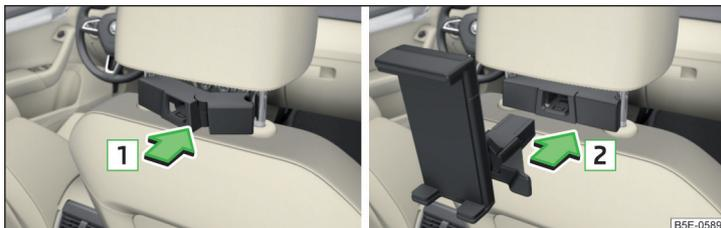

Fig. 102 Inserting: Adapter / holder
- ▶ **To insert**, attach the opened adapter to the guide rods of the front headrest and clip in the direction of arrow **1** » Fig. 102 » **!**.